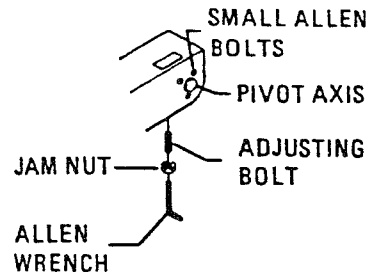

Figure 2-5. Later Model
3. After loosening the jam nut turn the adjusting bolt located under the table frame as required until the leg sections are even with each other and level with the table top. Refer to figure 2-5.